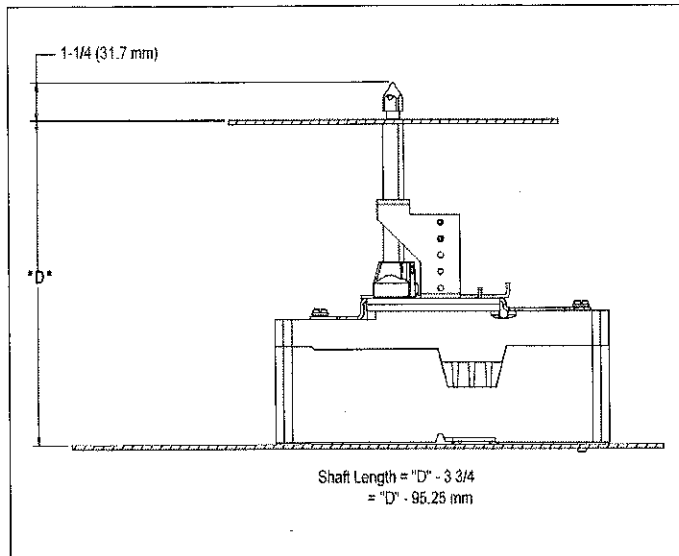

Fig. 3-1 Cutting Shaft to Length
4. Measure panel depth "D" per Figure 3-1. If "D" is less than 8" (203 mm), remove shaft support bracket from operating assembly and discard.
2. Mark shaft, measuring length beginning at the pointed end and cut to correct length. (Fig. 3-1)
3. After hole is drilled, close enclosure cover allowing the shaft to stick through the opening. Check this dimension per Figure 3-1. If dimension is not correct, loosen the set screw holding the shaft in the die cast pivot link and adjust such that the dimension is within the required limits, and retighten set screw.
4. Close the enclosure door. Place gasket/template supplied in hardware kit. Place the template over the shaft ensuring the text/wording is facing outward. With the use of your fingers remove any play by rotating the shaft in a clockwise motion. Align the template cutout with the shaft profile and mark the handle mounting holes. Drill (4) .281" (7.0 mm) diameter holes.